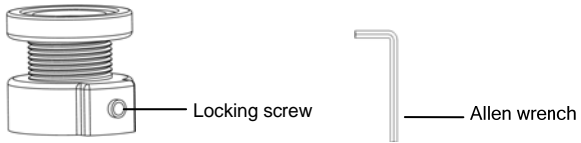

Figure 7
- (1). Fixed focal lens
- a. Loosen the locking screw (as shown in Figure 7) with an Allen wrench.